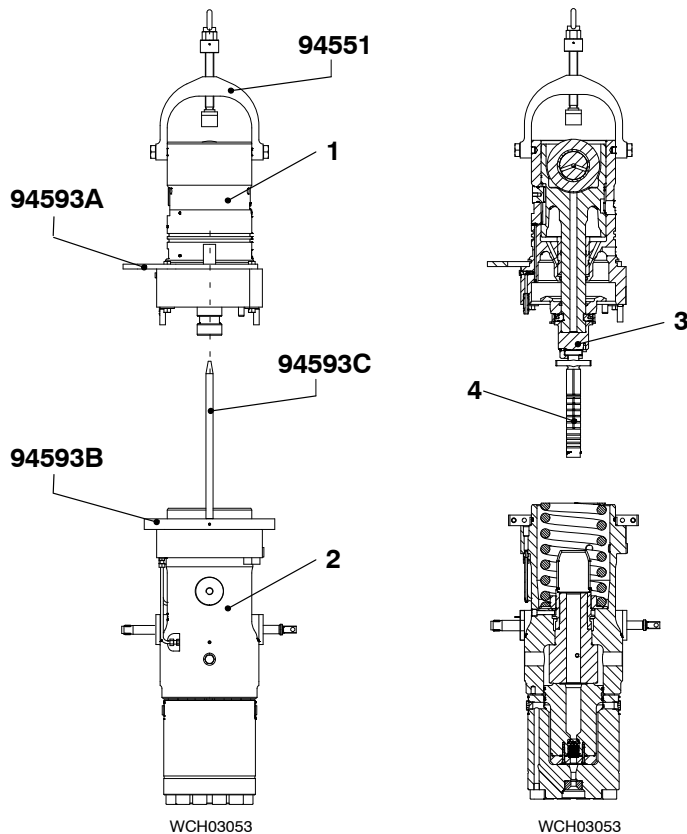

Fig. 20
- 1) Attach the ring (94593A, Fig. 20) to the bottom housing (1).
- 2) Attach the two-part ring (94593B) to the top housing (2). Make sure that the guide rods (94593C) align with the holes in the ring (94593A).